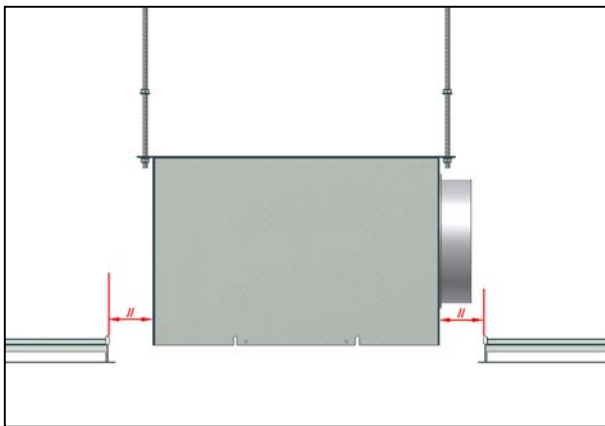

Figure 1: Centralise Plenum
1. Install the Plenum Box, suspending it from its mounting holes with Drop Rods (supplied by others). Centralise the Plenum Box in both directions within the opening where the Diffuser is to be fitted (see figure 1).